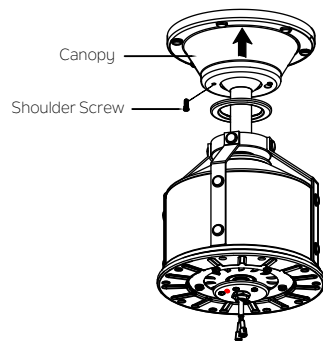

Fig. 15
Step 2. Assemble canopy by rotating key slot in canopy over shoulder screw in mounting bracket. Reinstall the shoulder screw that was previously removed, then retighten two shoulder screws securely.(Fig.15)